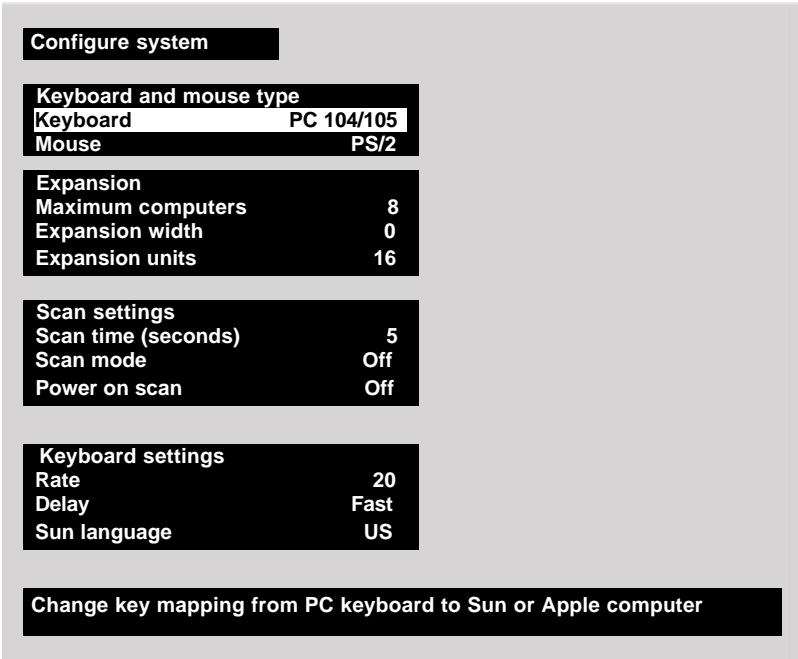

Figure 6. Configure system menu
6. Using the up/down arrow keys, select (highlight) "Configure system" and press enter. The "Configure system" menu will display. (See Figure 6)